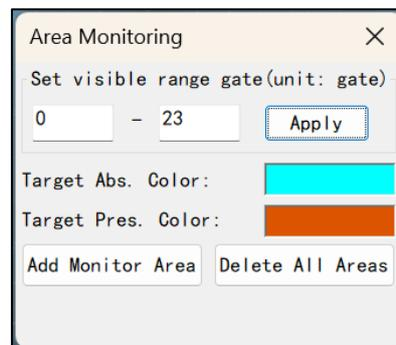

Figure 6-5 Area Monitoring window
- Step 2: Click the **Area Monitoring** button, a new window will appear, as shown in Figure 6-5, descriptions of the window are as follows: